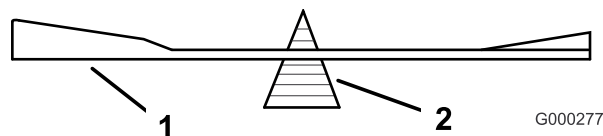
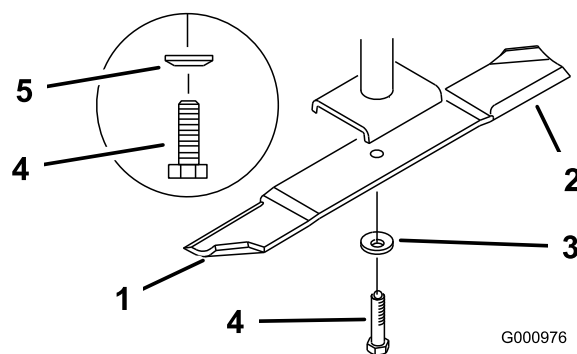

Figure 75
Figure 76
2. Remove the blade bolt, spring disk and blade from the spindle shaft (Figure 76).
2. Check the balance of the blade by putting it on a blade balancer (Figure 75). If the blade stays in a horizontal position, the blade is balanced and can be used. If the blade is not balanced, file some metal off the end of the sail area only (Figure 76). Repeat this procedure until the blade is balanced.
1. Install the blade onto the spindle shaft (Figure 76).
2. Install the spring disk and blade bolt. The spring disk cone must be installed toward the bolt head (Figure 76).